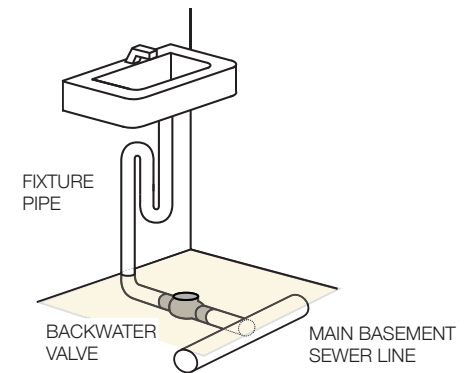

Figure 4: Install a backwater valve on each fixture, in a location easily accessible for monthly maintenance.
- The backwater valve should be accessible for monthly maintenance (Figure 4).